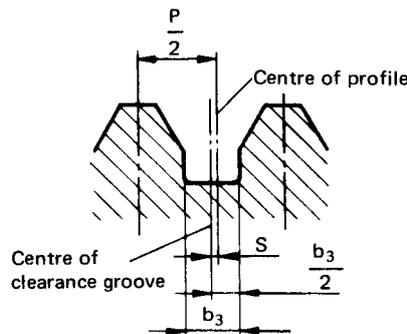

FIG. 9 - Displacement of the clearance groove for the profile with truncated flanks
9.2.1 *Displacement of the clearance groove for the profile.* The clearance groove may be displaced in relation to the centre of the profile of the thread by an amount  $S$  (see Fig. 9) which is equal to the permissible deviation of  $b_3$  (see Table 2).